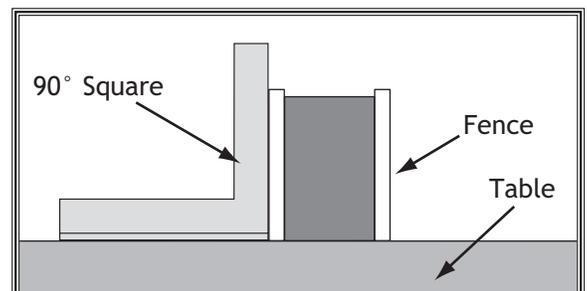

Figure 116. Checking if fence is square to table.
7. Place square on table and against face of fence, as shown in **Figure 116**, to check if fence is square to table.